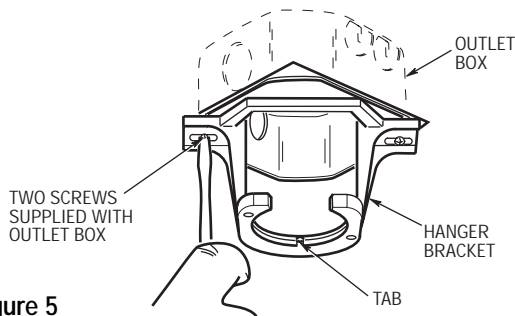
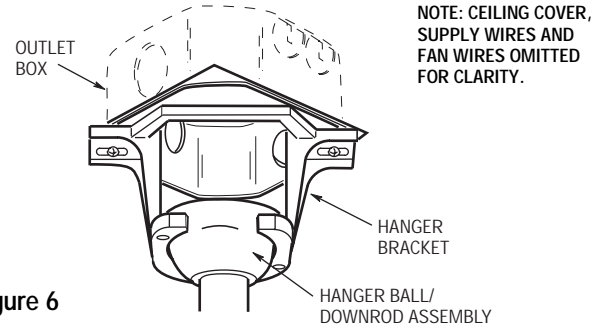

Figure 5
Figure 6
- 1. Securely attach the hanger bracket to the outlet box using the two screws supplied with the outlet box (Figure 5).
- 2. Carefully lift the fan from the foam pad and seat the hanger ball/downrod assembly on the hanger bracket that was just attached to the outlet box (Figure 6). Be sure the groove in the ball engages with the tab on the hanger bracket (Figure 5).